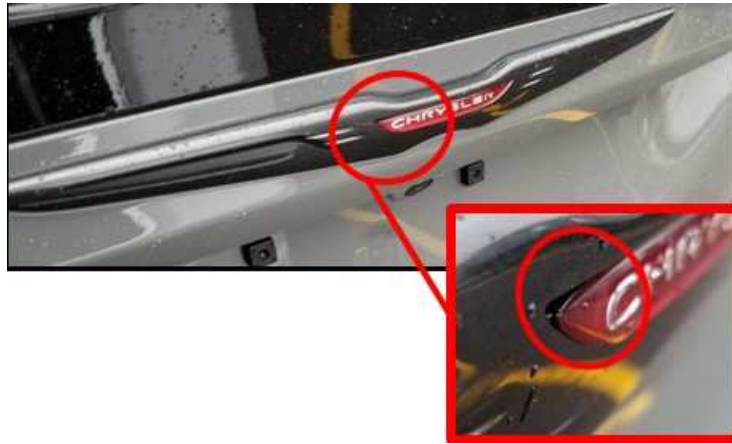

Fig. 1
2. Was the red inlay on the wing badge peeling or lifting (Fig. 1) ?